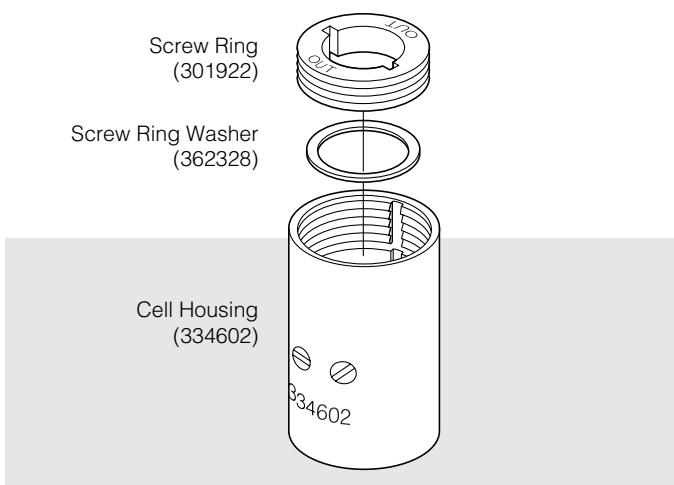

Figure 2-5. Cell Housing, with Screw Ring and Washer
- a. Apply a thin film of Spinkote lubricant to both sides of the screw-ring washer and to the threads of the screw ring (Figure 2-5) after the cell components are in place.